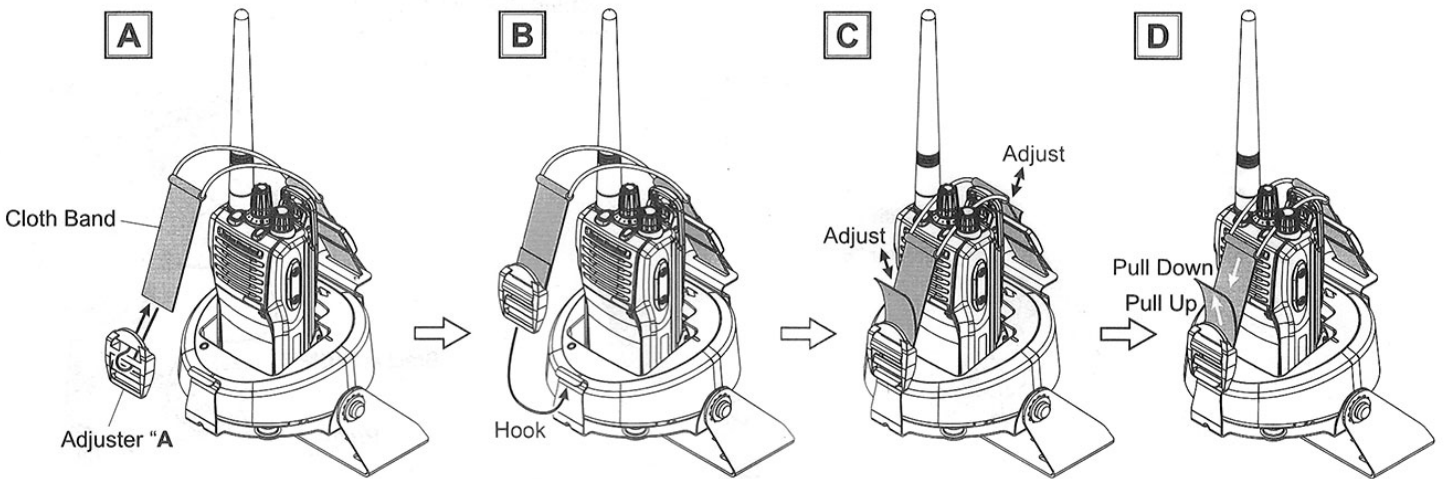

FIGURE 8
7. Referring to Figure 8, Install the Adjuster "A" to the Cloth Band (A), then through the ring section of the Cloth Band to the **CH** knob of the transceiver (B). Hook the Adjuster "A" to the hook of the Bracket "VCM-5", then adjust the Cloth Band so that the ring section of the Cloth Band goes to the center of the transceiver (C). Fix the transceiver securely by tightening the end of the Cloth Band (with an Adjuster "A") while pulling the Cloth Band downward, so the transceiver does not become loose from vibration (D).